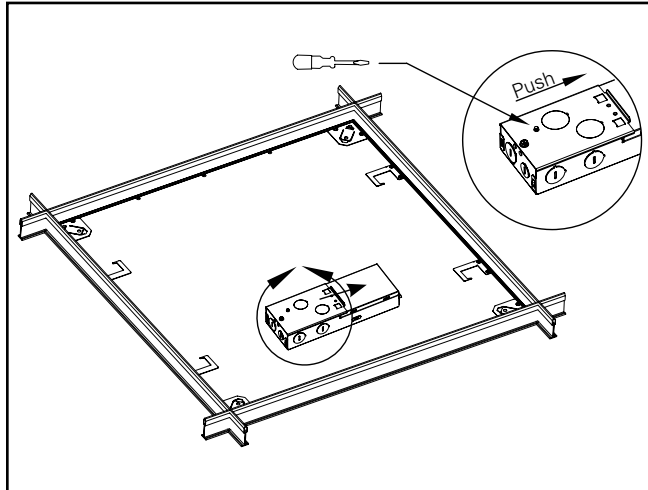

Figure 5.
8. Tuck all wires and wire nuts into the fixture junction box, replace electrical access plate, and snap securely into place. (Figure 5.)